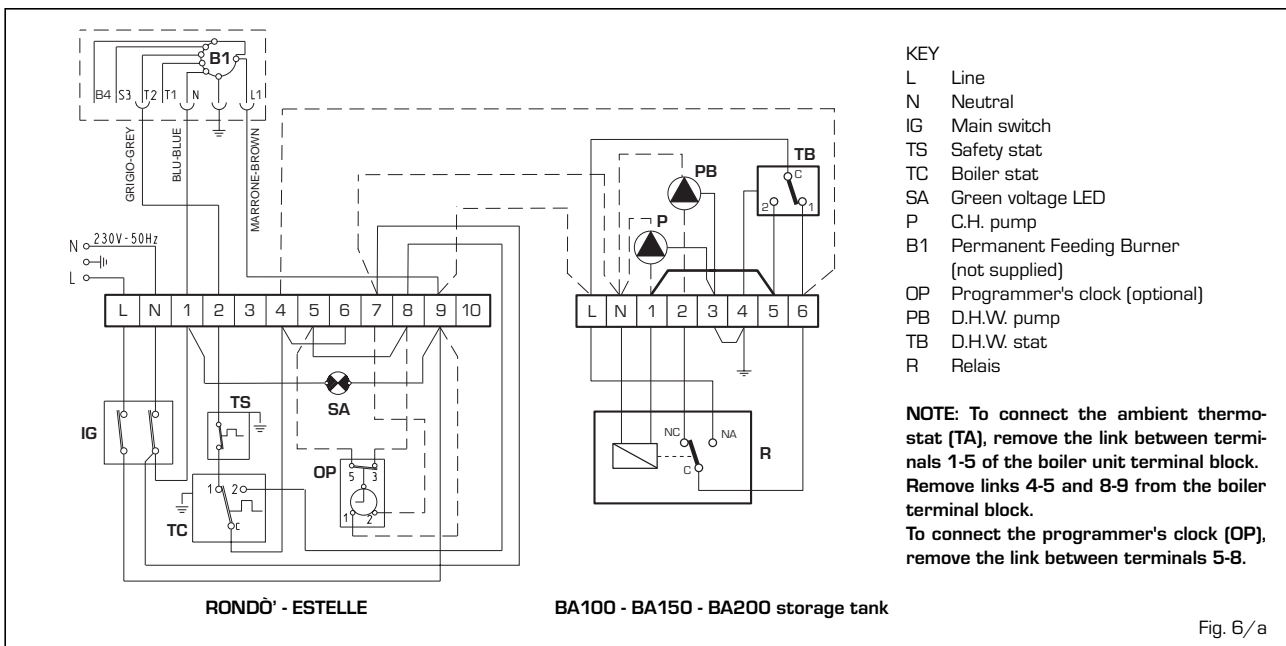

Fig. 6/a
- connect the cables as shown in the diagram (fig. 6/a).